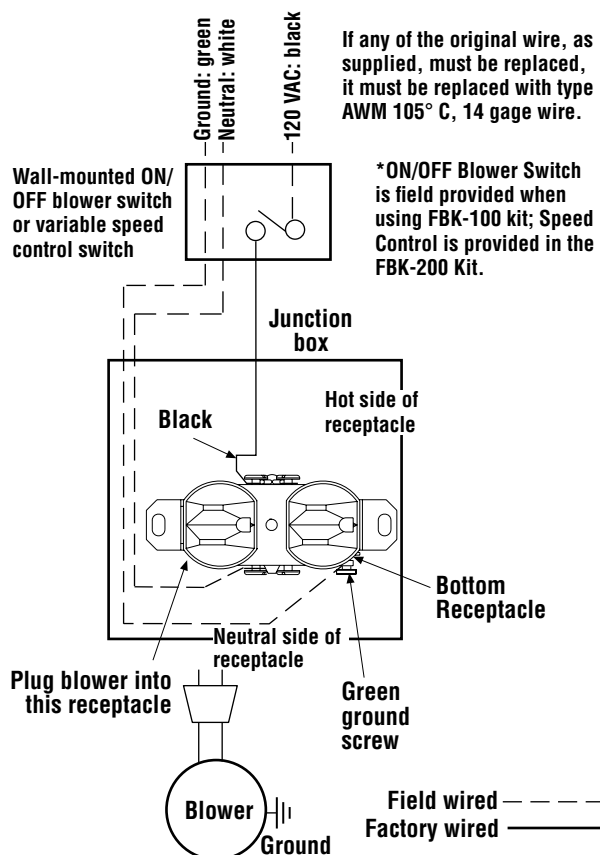

Figure 10 - 120 V, 60 Hz, 1 PH Blower Control Circuit Wiring (Wood and B-Vent Appliances)
6. Connect the electrical outlet and switch wires to the power supply; 3-wire, 120 VAC, 60 Hz, 1 ph power supply (**Figure 10**).